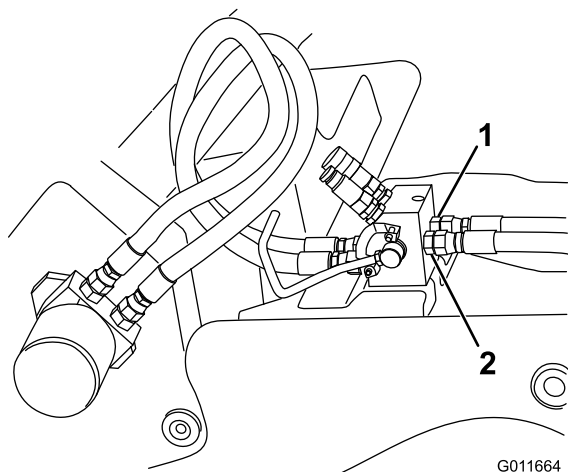

Figure 19
3. Connect the other end of the left hose to port T (right port) on the back of the hydraulic manifold and the other end of the right hose to port P (left port) as shown in Figure 19.
5. Loop the hoses up and around so that the open fittings are at the open ports on the hydraulic motor on the trencher (Figure 19).